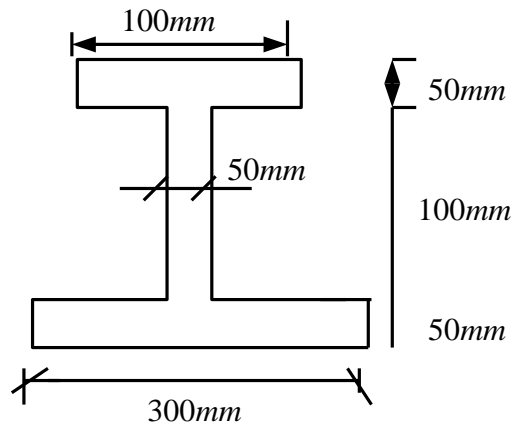

Fig. 4
- (b). A beam of cross-section as shown in Fig. 4 conveys a maximum shear force of 60KN. Determine the maximum horizontal shear stress in the section. **(4 Marks)**